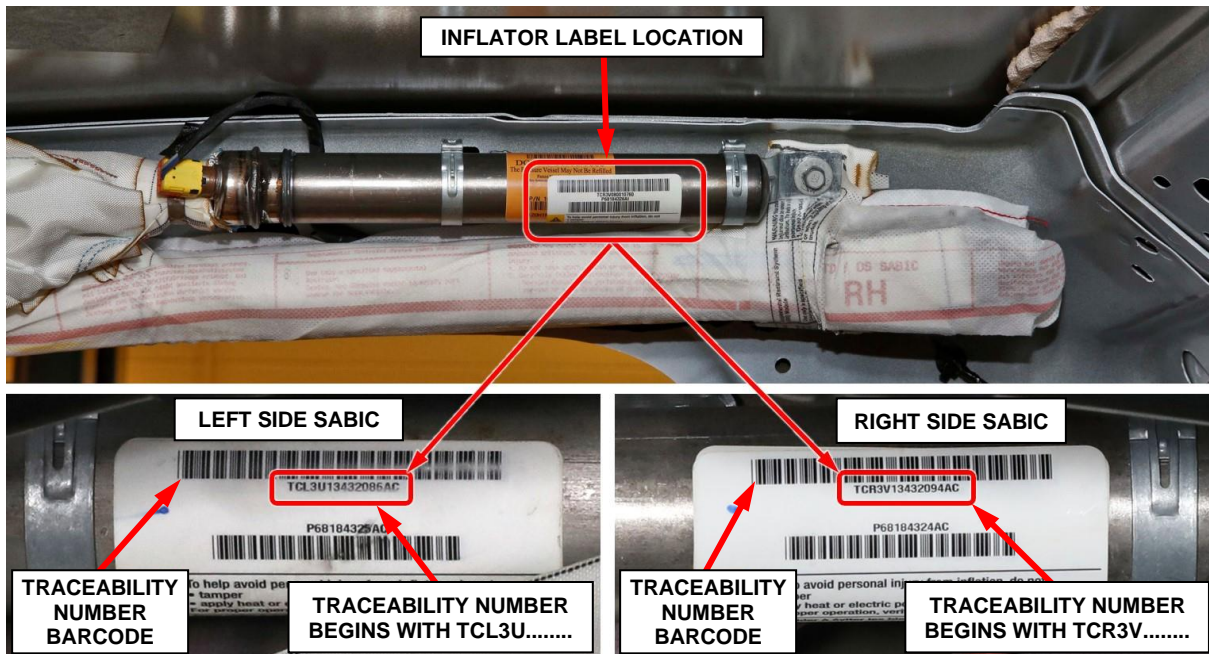

Figure 84 – SABIC Inflator Traceability Number Inspection
- 27. Locate the label on SABIC inflators. The traceability number will begin with TCL3Uxxxxxxxx for the left side or TCR3Vxxxxxxxx for the right side as shown in (Figure 84).